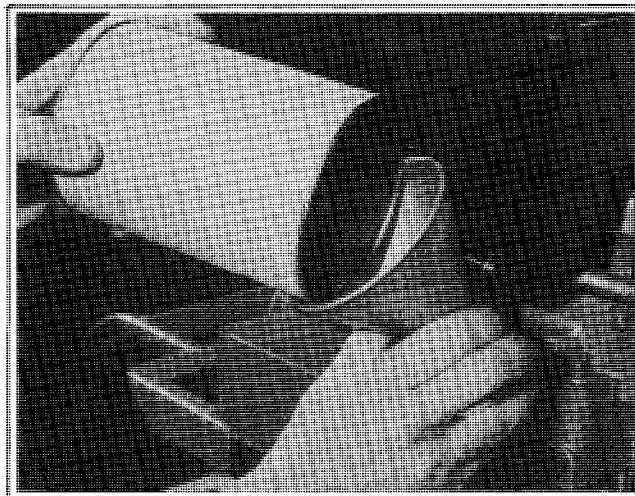

Figure 4. Oil Fill
6. To add oil, a funnel is recommended to prevent oil spills, see Figure 4.